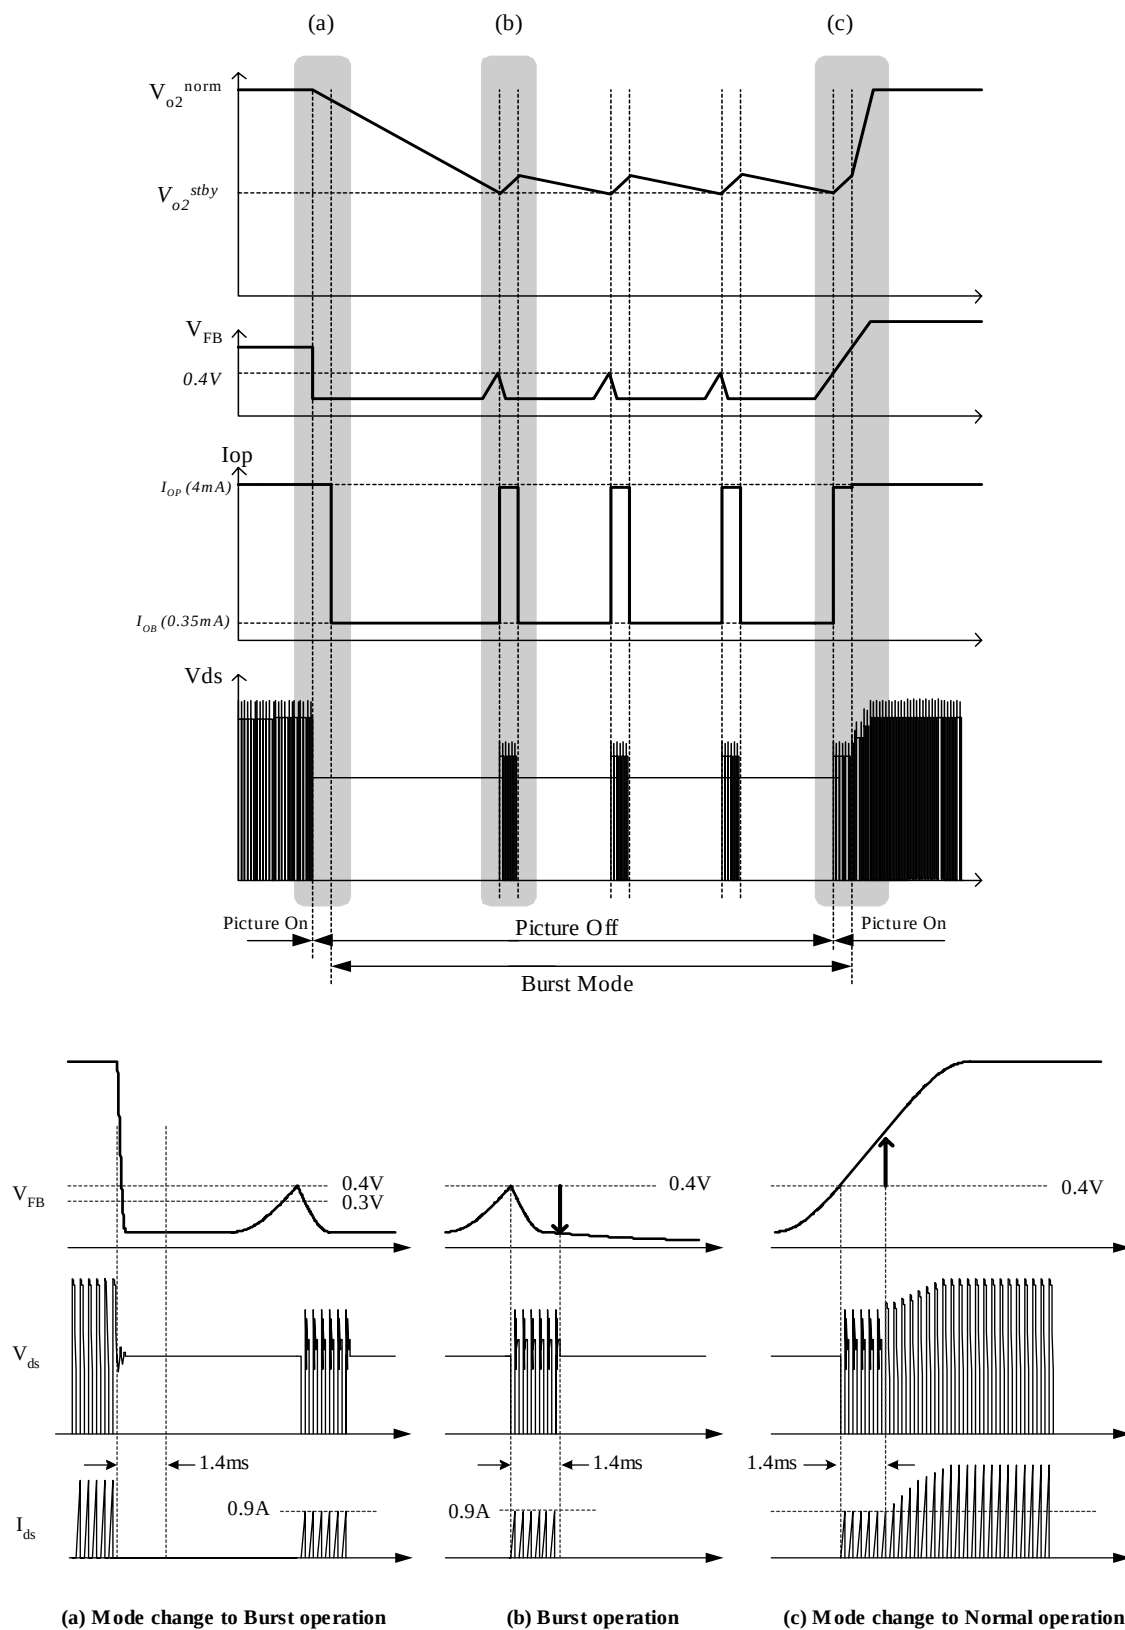

Figure 13. Waveforms of burst operation
4.1 Over Load Protection (OLP) : Overload is defined as the load current exceeding its normal level due to an unexpected abnormal event. In this situation, the protection circuit should trigger in order to protect the SMPS. However, even when the SMPS is in the normal operation, the over load protection circuit can be triggered during the load transition. In order to avoid this undesired operation, the over load protection circuit is designed to trigger after a specified time to determine whether it is a transient situation or an overload situation. Because of the pulse-by-pulse current limit capability, the maximum peak current through the Sense FET is limited, and therefore the maximum input power is restricted with a given input voltage. If the output consumes more than this maximum power, the output voltage (V_o) decreases below the set voltage. This reduces the current through the opto-coupler LED, which also reduces the feedback voltage (V_{fb}). If V_{fb} exceeds 2.8V, D1 is blocked and the 5uA current source starts to charge C_B slowly up to V_{cc} . In this condition, V_{fb} continues increasing until it reaches 7.5V, when the switching operation is terminated as shown in Figure 13. The delay time for shutdown is the time required to charge C_B from 2.8V to 7.5V with 5uA. In general, a 20 ~ 50 ms delay time is typical for most applications. This protection is implemented in auto restart mode.